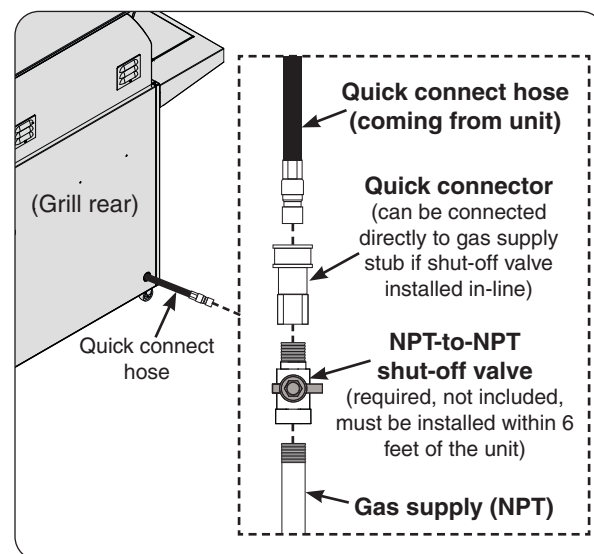

Fig. 17-2 Connecting to a gas line
2. A shut-off valve is required within 6 feet of the unit. Connect the quick connect hose to the shut-off valve (NPT) OR gas supply (NPT) using a pipe joint compound resistant to all gasses (see Fig. 17-2). Tighten securely.